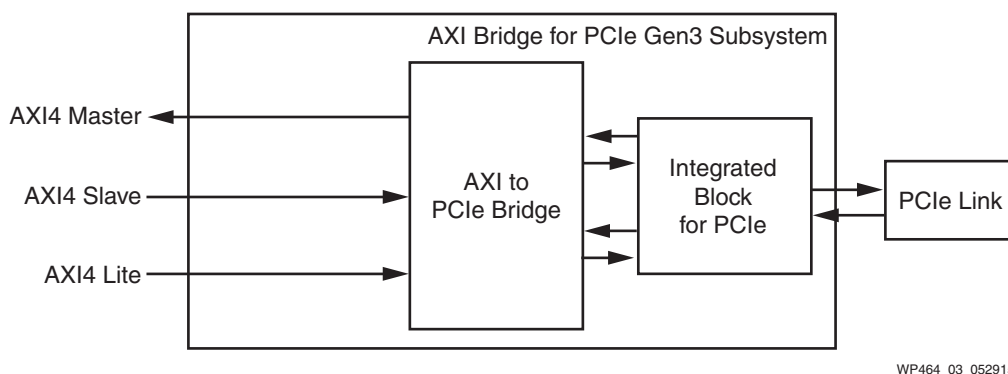

Figure 3: AXI4 Interface
- 2. **AXI4:** This is a memory-mapped interface for use with processor system based cores. This interface is the typical path for embedded designs. See Figure 3.